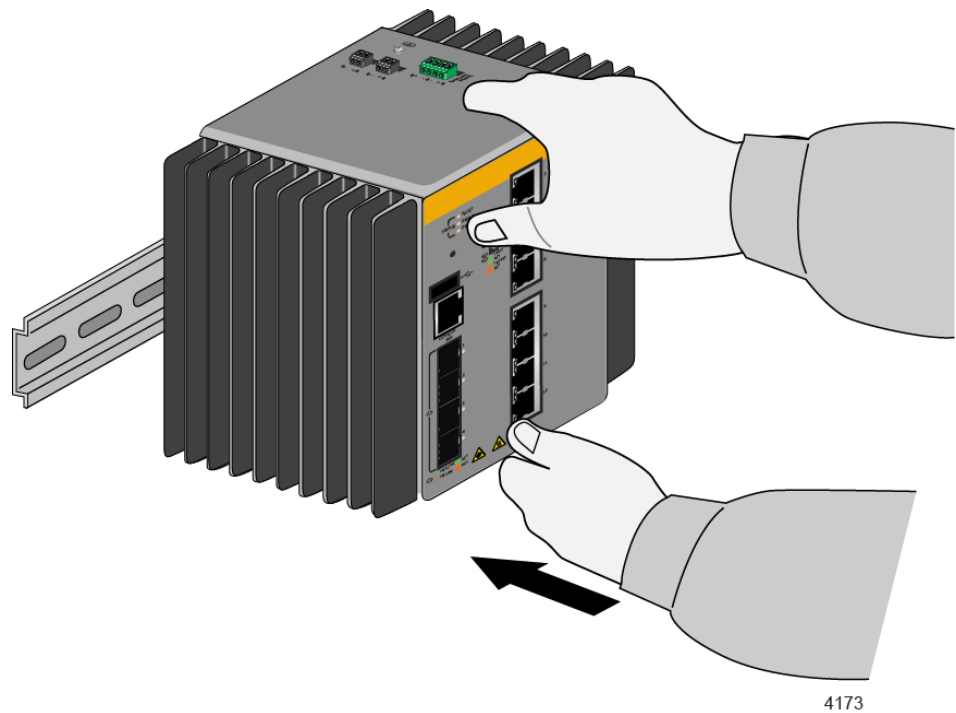

Figure 17. Installing the Switch on a DIN Rail - 2
2. Press on the bottom edge of the front faceplate of the switch until the bottom edge of the DIN rail snaps into the bottom slot in the bracket. Refer to Figure 17.